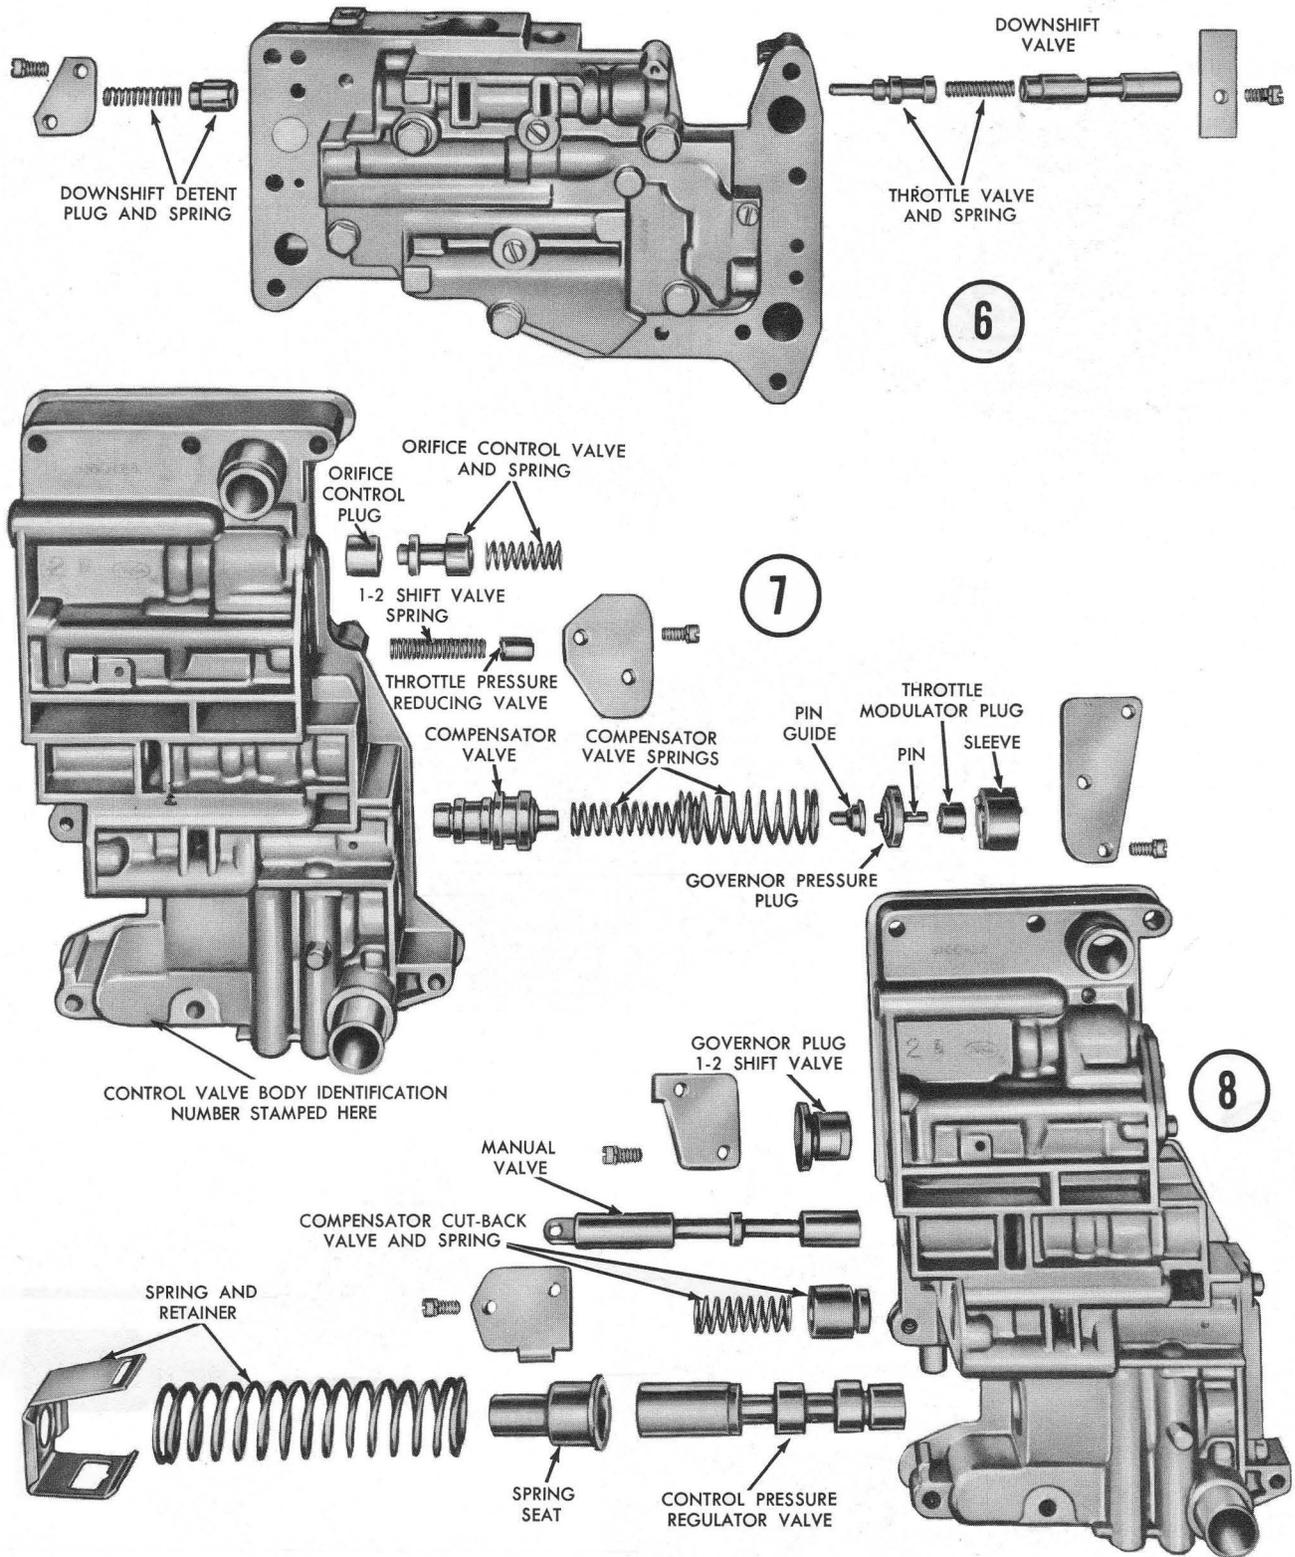

FIG. 16—Control Valve Body Assembly Procedure
Two different control valve bodies are used in the Falcon Fordomatic transmission. Even though the control valve bodies are similar in appearance, one is calibrated for the 144 Six engine and the other for the 170 Six engine. Each valve body is identified by a number stamped on the lower body (Fig. 16).
7. In the upper body, install the downshift detent plug, spring, and cover plate (Fig. 16). Install the hold-down plate and screw. Torque the hold-down plate and cover screws to 20-30 inch-pounds.
11. Install the orifice control valve plug, orifice control valve and spring. Install the cover plate for the throttle reducing valve and orifice control valve. Torque the screws to 20-30 inch-pounds (Fig. 16).